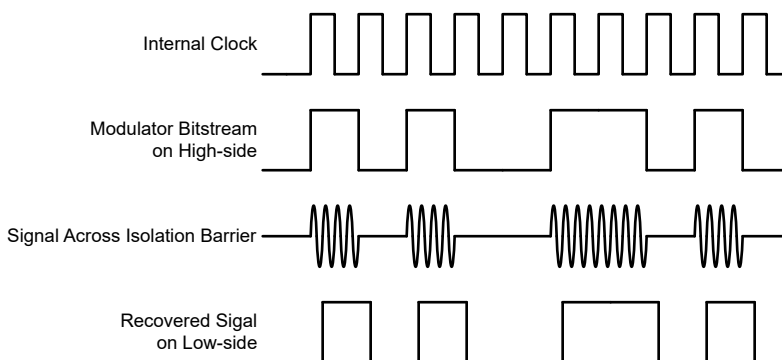

Figure 7-1. OOK-Based Modulation Scheme
As shown in Figure 7-1, the AMC0x02D uses an on-off keying (OOK) modulation scheme to transmit the modulator output bitstream across the SiO₂-based isolation barrier. The transmit driver (TX) is illustrated in the Functional Block Diagram. TX transmits an internally generated, high-frequency carrier across the isolation barrier to represent a digital *one*. However, TX does not send a signal to represent a digital *zero*. The nominal frequency of the carrier used inside the AMC0x02D is 480MHz.